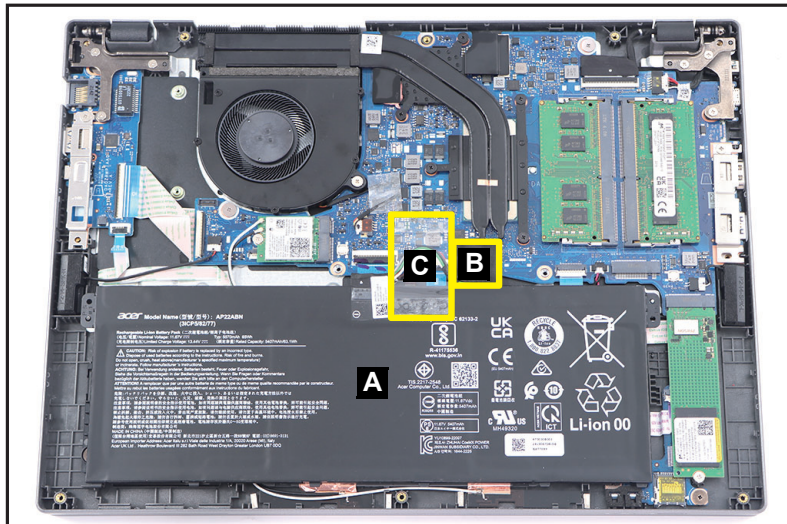

Figure 1-6. Battery Pack Removal
1. Find the battery pack (A) on the top assembly (Figure 1-6).
2. Detach the acetate tape (B) and mylar (C) securing the battery cable in place (Figure 1-6).